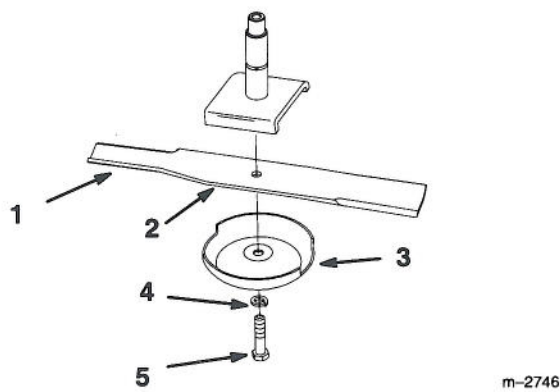
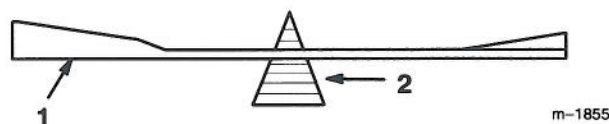

Figure 16
Figure 18
Hold the blade end using a rag or thickly-padded glove. Remove the blade bolt, lock washer, anti-scalp cup and blade from the spindle shaft (Fig. 16).
2. Check the balance of the blade by putting it on a blade balancer (Fig. 18). If the blade stays in a horizontal position, the blade is balanced and can be used. If the blade is not balanced, file some metal off the end of the sail area only (Fig. 16). Repeat this procedure until the blade is balanced.
1. Install the blade onto the spindle shaft (Fig. 16).
2. Install the lock washer and blade bolt (Fig. 16). Torque the blade bolt to 85–110 ft-lb (115–150 N•m).